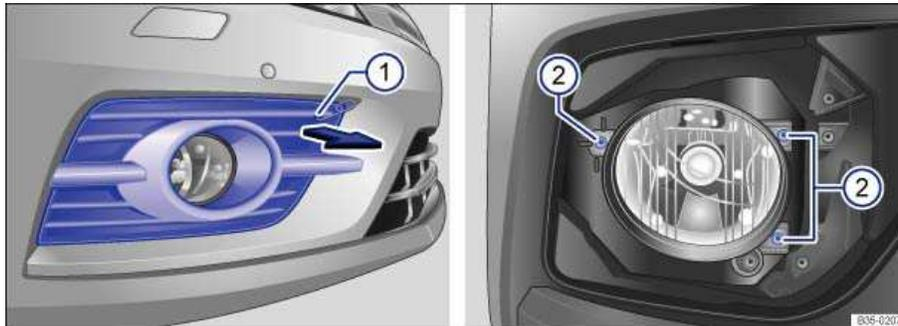
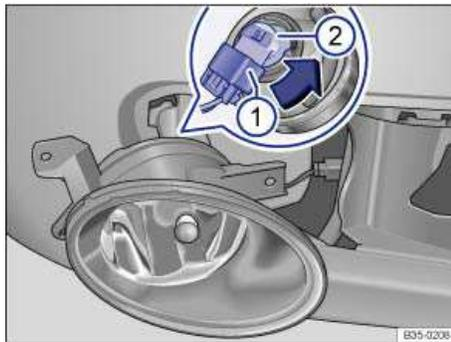

Fig. 204 In the right front bumper: Fog light.
Fig. 205 In the removed light: Replacing the bulb.
3. Insert the wire bracket into the opening ⇒ fig. 204 \(1\) on the cover and pull it forward in the direction of the arrow with the cover and remove.
4. Remove the screws (2) with the screwdriver.
7. Release the connector ⇒ fig. 205 \(1\) and disconnect it.
8. Turn the bulb holder (2) counterclockwise until it stops and then it remove it toward the rear with the bulb.
12. Connect the connector (1) on the bulb so that it clicks into place.
14. Install the screws ⇒ fig. 204 \(2\).
15. Insert the cover in the bumper opposite the direction indicated by the arrow ⇒ fig. 204. The cover must click into place securely.